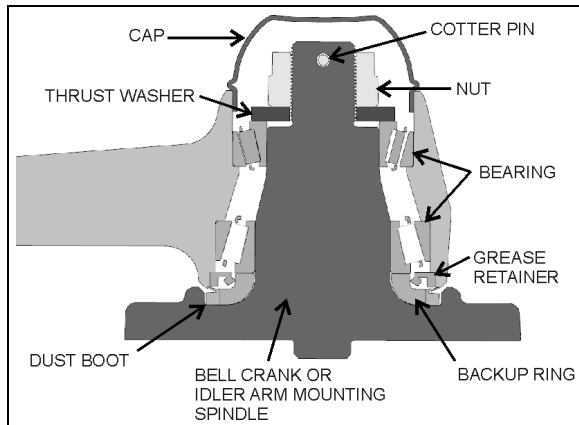

FIGURE 17: BELL CRANK OR IDLER ARM HUB
2. Remove the cap (Fig. 17).
3. Remove the cotter pin, nut and tongue washer. Remove bearings, grease seal, bearing bushing and the bell crank or idler arm from its mounting spindle (Fig. 17).